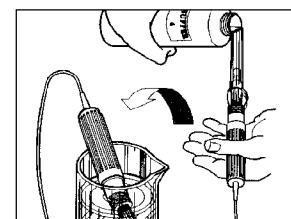

FIGURE 17
4. Rinse sensor in pH 4 solution (low cal), then place sensor into a clean container and pour enough pH 4 buffer solution to cover tip (approximately 1" depth) (see fig. 17).